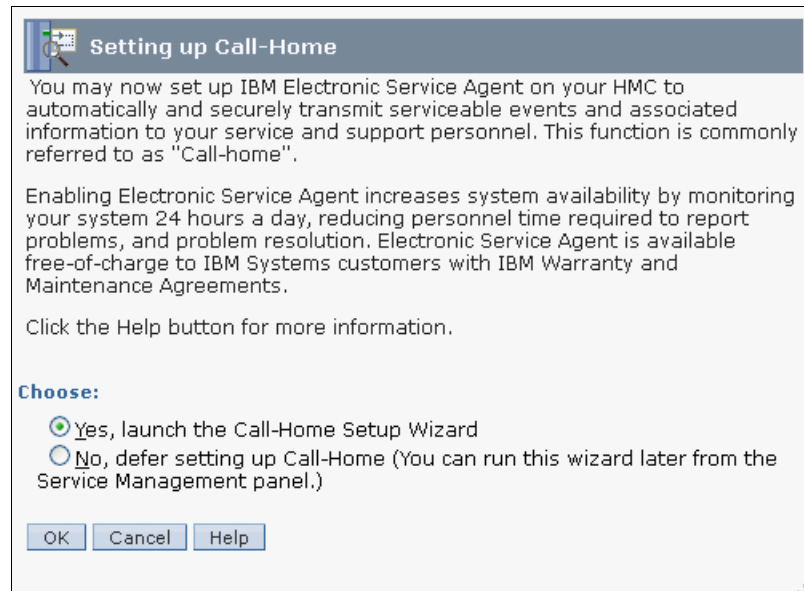

Figure 3-22 Setting up the call home window
26. The Launch Guided Setup Wizard - The Next Steps panel displays (see Figure 3-22). This step completes the network configuration section of the Guided Setup Wizard. We now continue with the Call Home Setup Wizard.